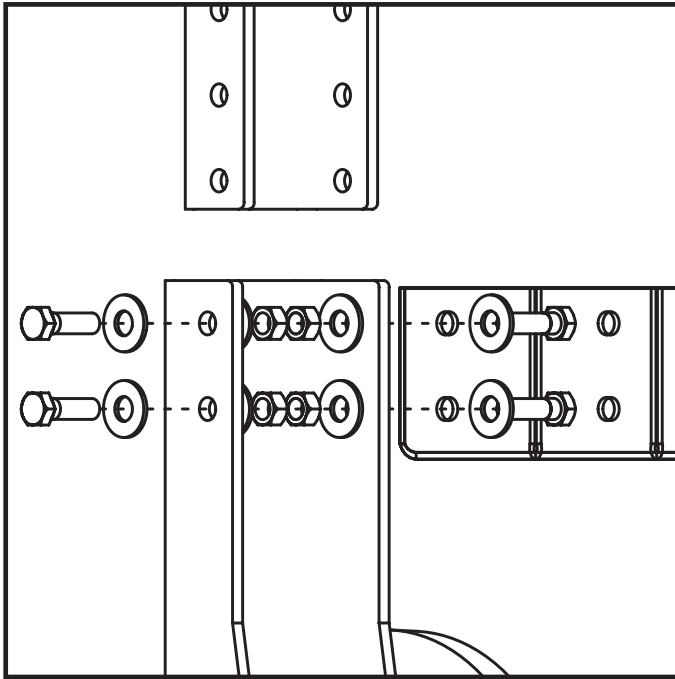

Figure 1. Railcar Vibrator Storage Stand & Cart Connection of Lower to Upper Assembly
1. Align upper assembly to lower wheeled assembly, ensuring the holes are properly aligned at the currently desired height. Using supplied hardware, fix the upper assembly into place within lower assembly at the currently desired height. (Refer to Figure 1.)
2. Install the tool tray onto the desired side of the assembly using supplied hardware. (Refer to Figure 1.)